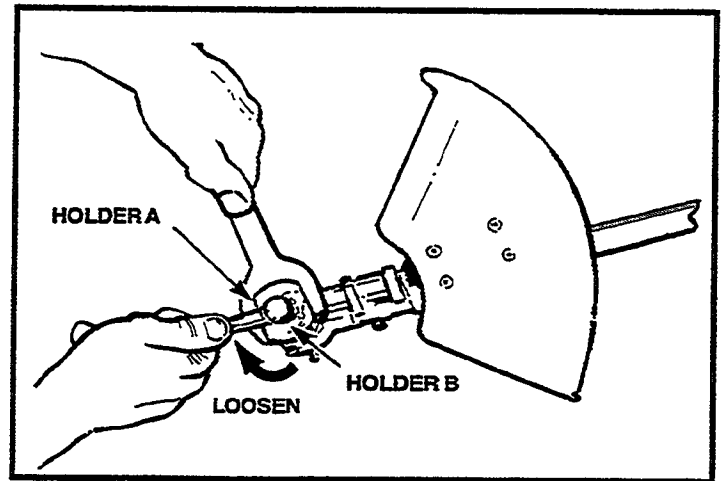

Figure 4
- Using the tools shown in (Figure 4), remove the bolt (left hand thread), star washer, and flat washer at the bottom of the gearcase.